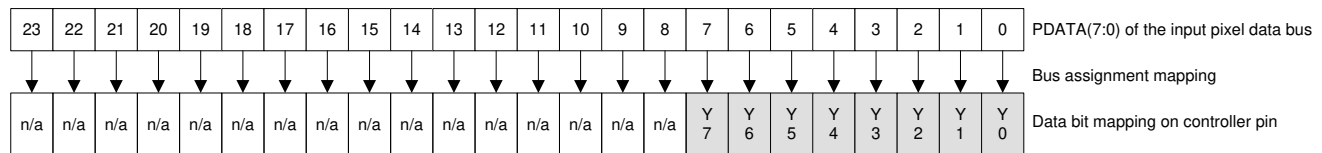

Figure 6-9. BT.656 Interface Mode Bit Mapping
- (1) Calculate clock jitter (in ns) using this formula: Jitter = $[1 / f_{clock} - 5.76 \text{ ns}]$. Clock jitter must maintain setup and hold times. BT.656 data bits must be mapped to the DLPC34xx PDATA bus as shown in Figure 6-9 shows BT.656 bus mode YCbCr 4:2:2 source PDATA (23:0) mapping.
- (2) The BT.656 interface accepts 8-bits per color, 4:2:2 YCbCr data encoded per the industry standard through PDATA(7:0) on the active edge of PCLK. See Figure 6-9.